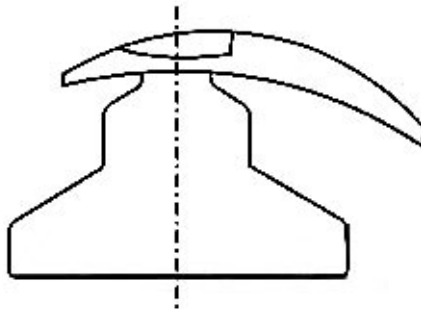

Fig. 15
- (1) According to measuring procedures of spherical lens and cylindrical lens in above stated Sections 5.2.1 and 5.2.2, measure distant vision of bifocal lens (i.e. diopter of big lens).
- (2) Press measurement switching key S/C to switch it to mode of cylindrical lens measurement.
- (3) Lightly move lens so that near vision part of bifocal lens (i.e. small lens) is placed on measurement bearing seat (Fig. 15), and drone is moved to center of eyepiece visual field.
- (4) Turn diopter measuring hand-wheel to obtain clearest focus of drone. At this time, diopter degree value of this bifocal lens is shown on liquid crystal display screen (Fig,16), where, SPH is spherical diopter, and CYL is additional diopter. At this time, AXIS data have no meaning, which can be ignored.